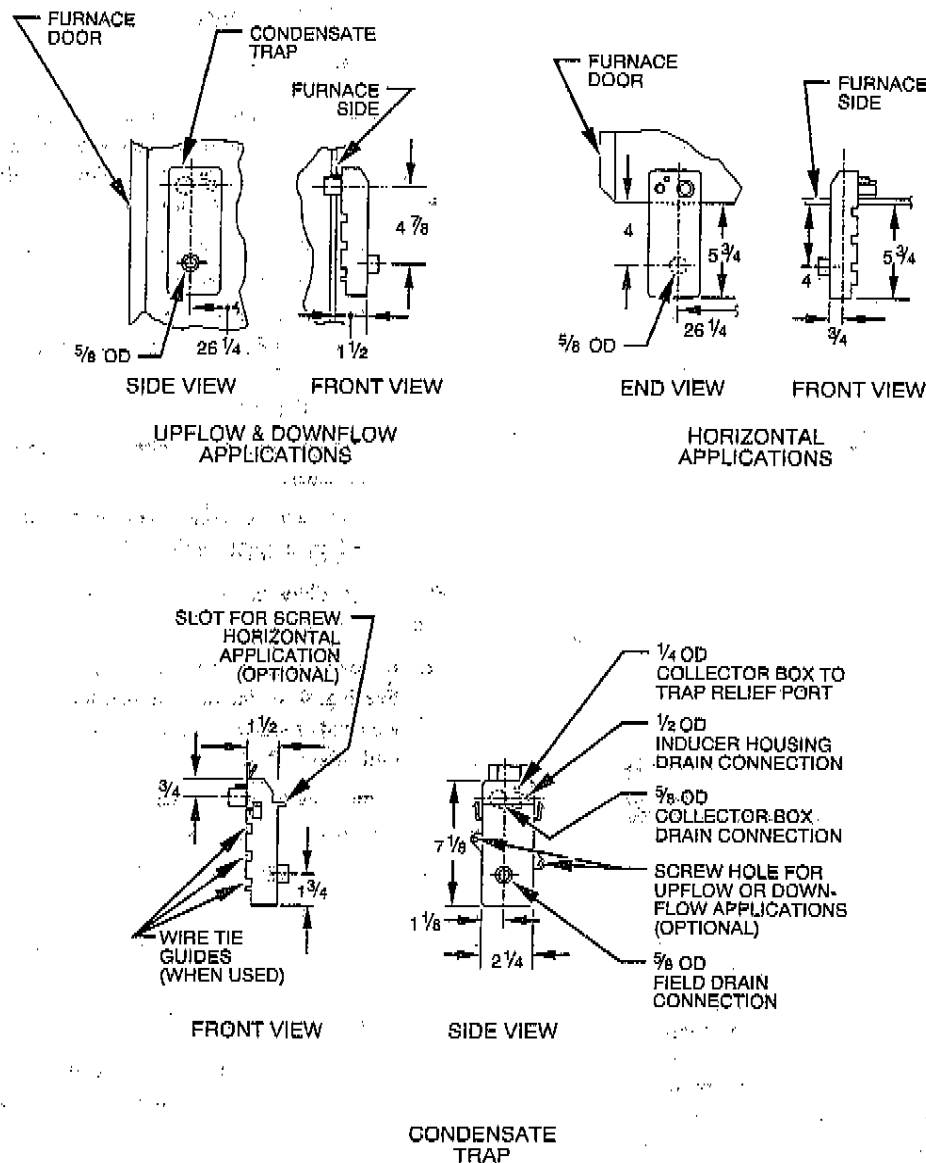

Fig. 5—Condensate Trap
- After condensate trap is installed, determine proper length of tube to connect LOWER collector box drain connection to LARGER (5/8-in. OD) tube connection on condensate trap. (See Fig. 5.)
- After condensate trap is installed, determine proper length of tube to connect LOWER inducer housing drain connection to SMALLER 3/8-in. OD tube connection on condensate trap. (See Fig. 5.)
- After trap is installed determine proper length of tube to connect LOWER collector box drain connection to LARGER 5/8-in. OD tube connection on condensate trap. (See Fig. 5.)
- Determine proper length of tubing to connect LOWER inducer housing drain connection to SMALLER 3/8-in. OD tube connection on condensate trap. (See Fig. 5.)
- After trap is installed, determine proper length of tube to connect LOWER collector box drain connection to LARGER 5/8-in. OD tube connection on condensate trap. (See Fig. 5.)
- After trap is installed, determine proper length of tube to connect LOWER inducer housing drain connection to SMALLER 3/8-in. OD tube connection on condensate trap. (See Fig. 5.)
**CAUTION:** The condensate trap **MUST** be installed below furnace. See Fig. 5 for dimensions. The drain connection to condensate trap must also be properly sloped to an open drain.
c. Determine proper length of tube to connect LOWER inducer housing drain connection to SMALLER 3/8-in. OD tube connection on condensate trap. (See Fig. 5.)